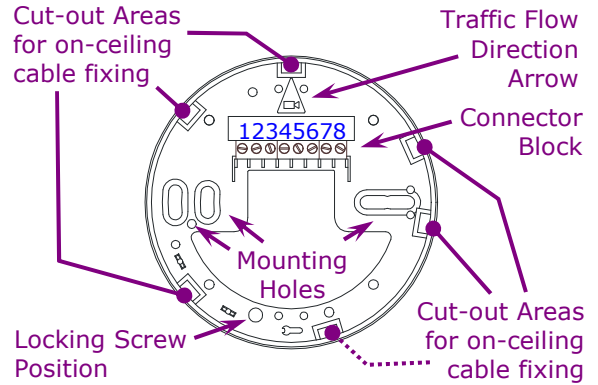

Fig. 1
- 1.1 Detach the counter head from its base by twisting anticlockwise slightly then pulling apart to expose the mounting holes on the base (Fig. 1).
- 1.2 Select a suitable location for mounting the counter base. Refer to the 'Applications Notes' document, IPU40184, for details on suitable locations. Ensure that the 'Traffic Flow Direction Arrows' of all units are all pointing in the same direction - in the direction of traffic flow (Fig. 1).
- 1.3 A 3-5cm hole in the ceiling should be provided for cable access. If mounting on solid ceilings, a number of alternative cut-out areas are provided in the base perimeter to allow for wiring access (Fig. 1). Install the base using mounting holes provided; these holes allow for a limited amount of movement of the base - once aligned correctly, secure the base using the locking screw position.